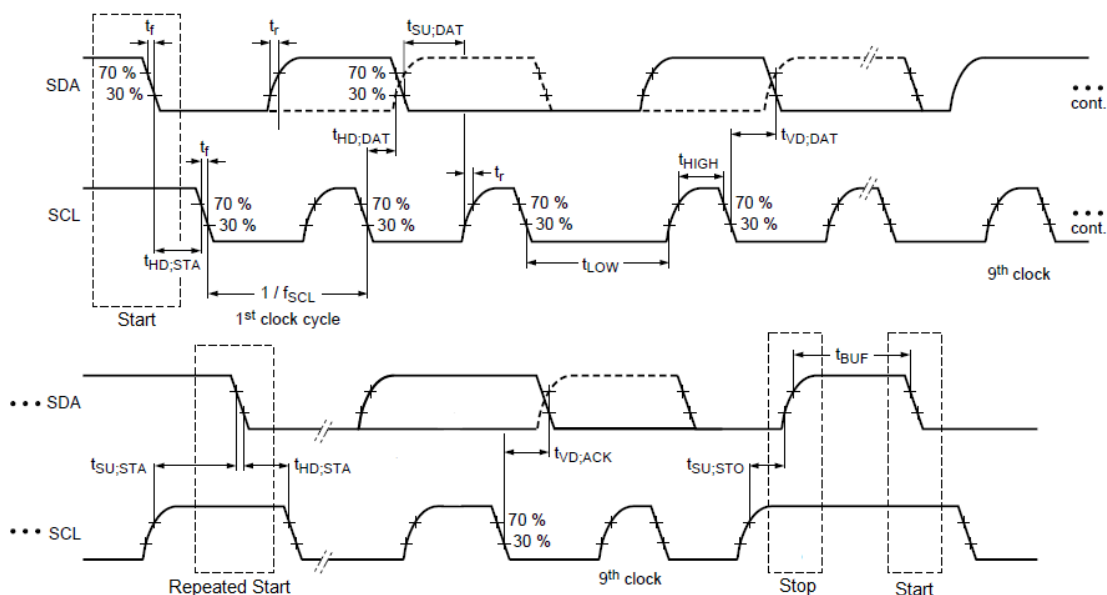

Figure 52. I2C Timing Waveform
1. In I2C mode, the serial data and clock have an on-chip 25 k Ω pull up resistor to VDDIO. Please refer Figure 52 for the nomenclature of these parameters.